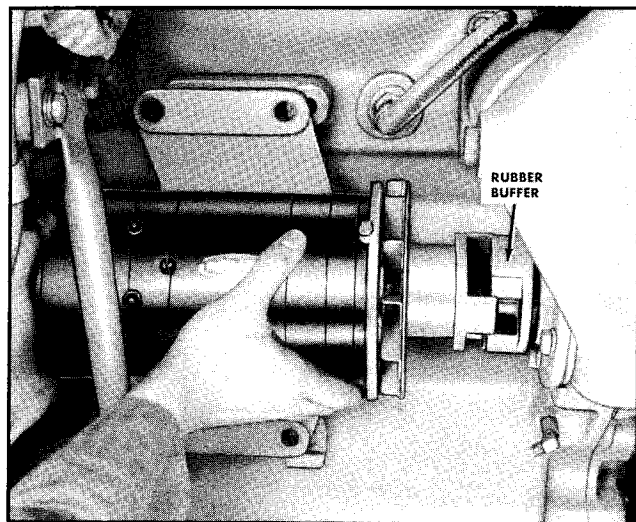

Fig. 4-1. Mounting generator
3. Install the rubber buffer between the generator coupling and the drive coupling and connect the two units. Fig. 4-1. Mount the generator and bracket assembly to the cylinder block.